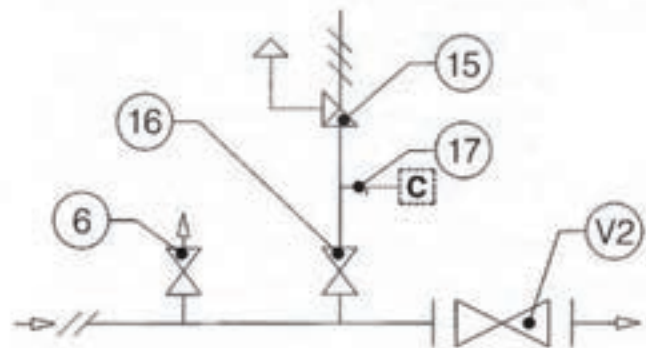

Fig. 6
**3.1.2 INSTALLAZIONE CON VALVOLA DI INTERCETTAZIONE (Fig. 6)**
**3.1.2 INSTALLATION WITH ON/OFF VALVE (Fig. 6)**